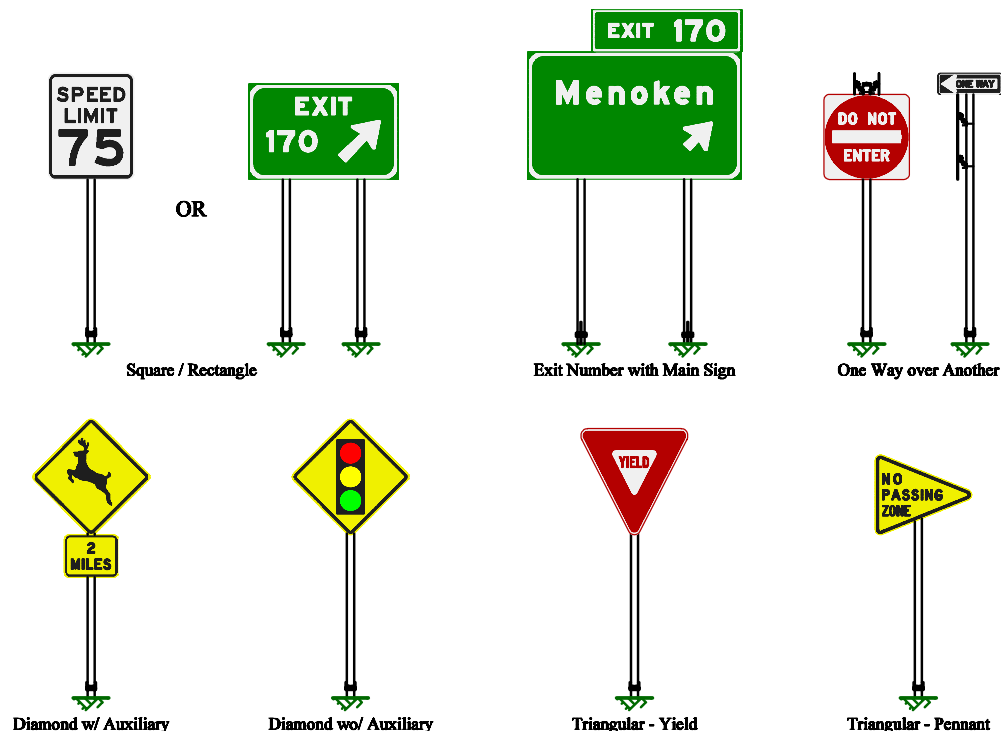

Figure 6 – Sign Types for Pipe/W-Shape Supports
28. **Sign Type**{ XE "Sign Type" \b } : Choose the type of sign you want to design (see Figure 6.)